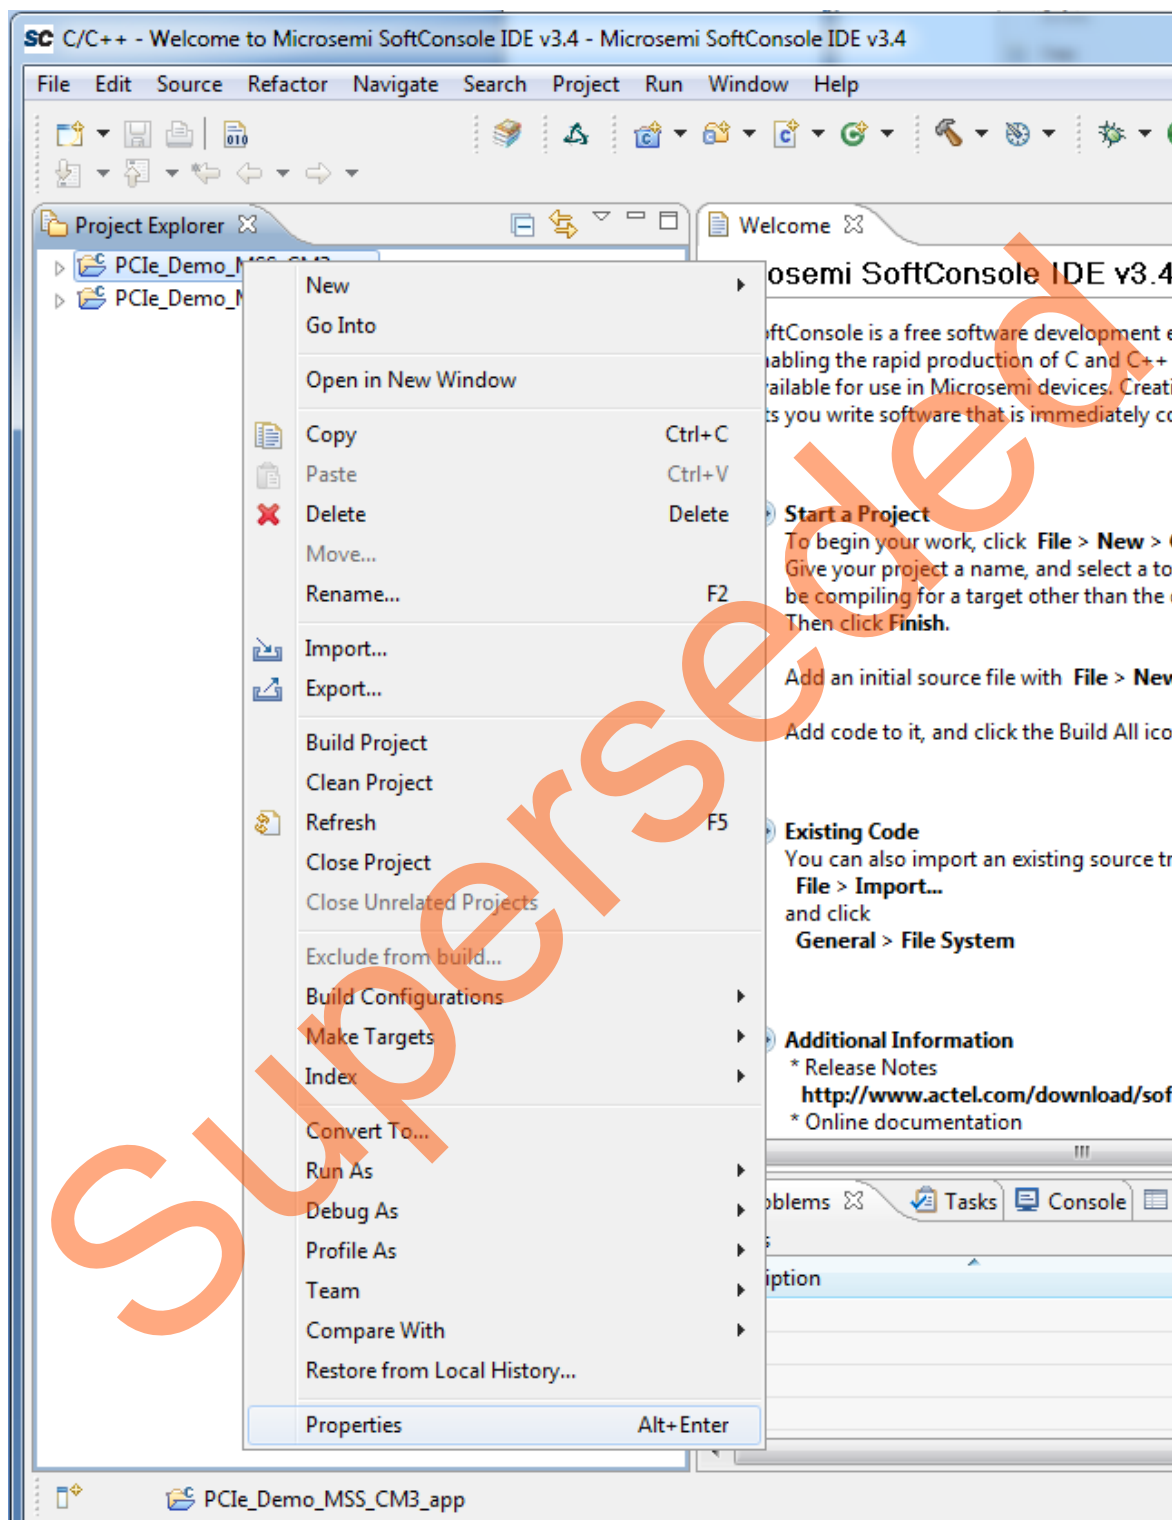

Figure 35 • Properties Option
5. Select **PCle_Demo_MSS_CM3_app**. Right-click and select **Properties** as shown in Figure 35.